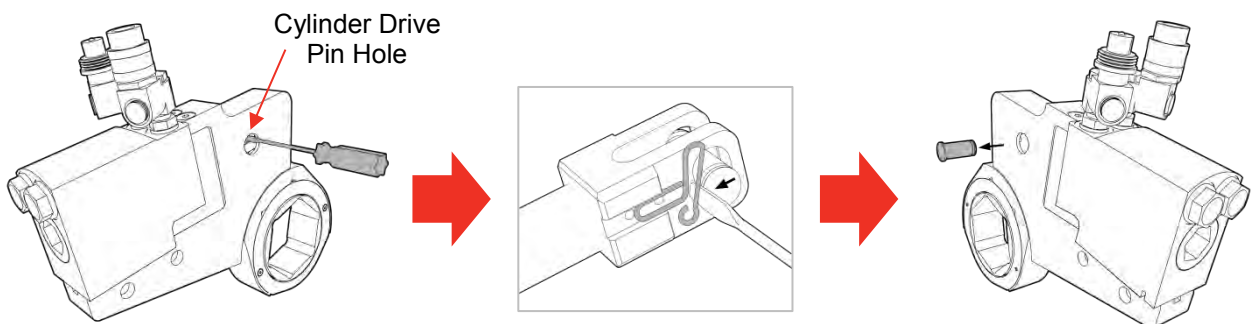

FIGURE 1 – Removing the Cylinder Drive Pin
3. Ensure the cylinder drive pin is removed from the tool body (See Figure 1).